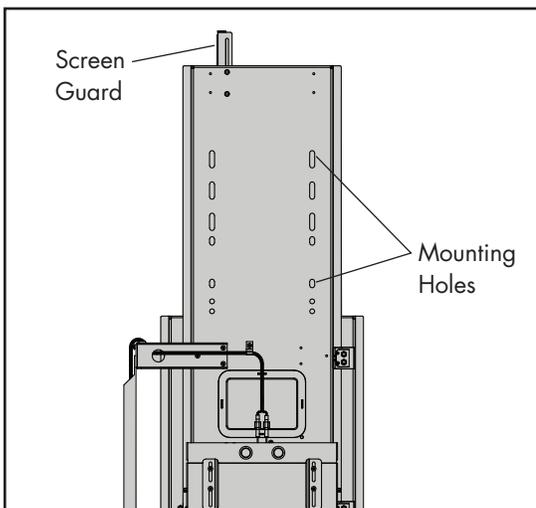

Figure 2.1
- Attach the television mounting bracket (not included) to the lift using the Mounting Bracket Fastener Kit (included). The mounting holes are slotted to provide the greatest mounting flexibility. (Figures 2.1, 2.2, 2.3)